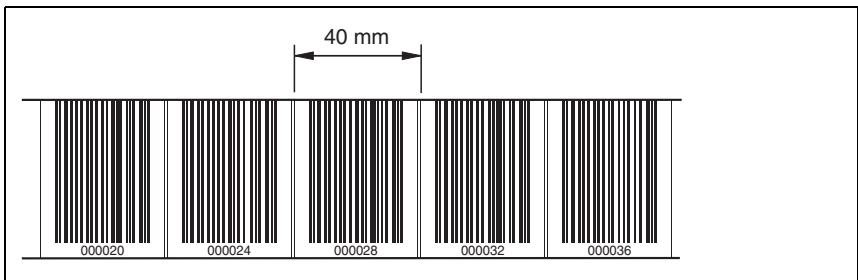

Figure 6.10: Checking the print results of the BCB repair kit
3. Verify the printing result by measuring the distance between two codes (see Figure 6.10).